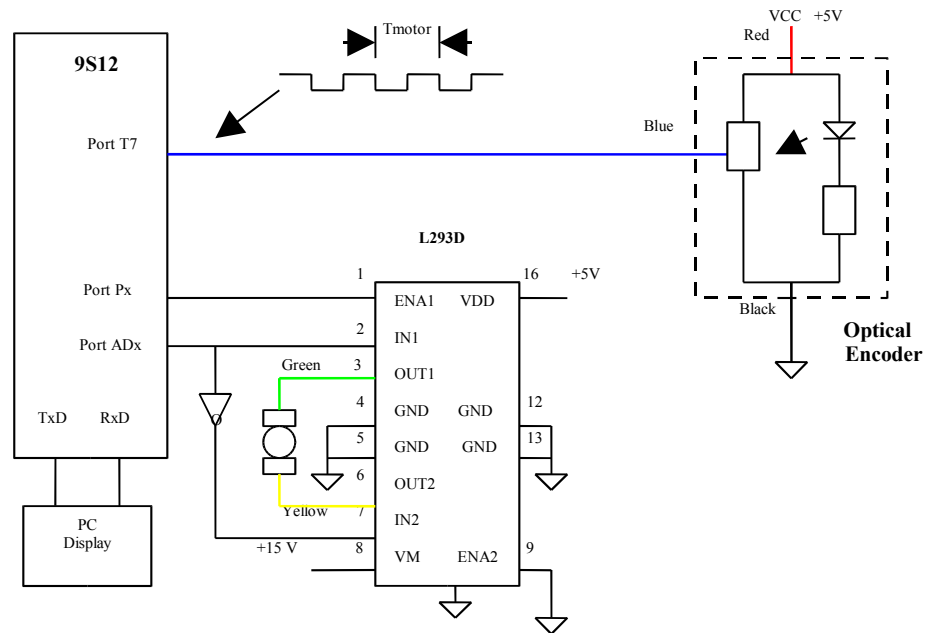

Figure 1. Block diagram of HCS12 output port at address 0x4055
In this lab you will control the speed of a motor. Figure 1 shows the hardware setup, which will be the same as for Week 1 of Lab 4. You will see a potentiometer on your evaluation board to set the desired speed of the motor, and you will control the speed through the PWM output of the HCS12. You will measure the speed of the motor using an input capture pin, and display the desired and actual speeds on the terminal.
1. Build the circuit shown in Figure 1.